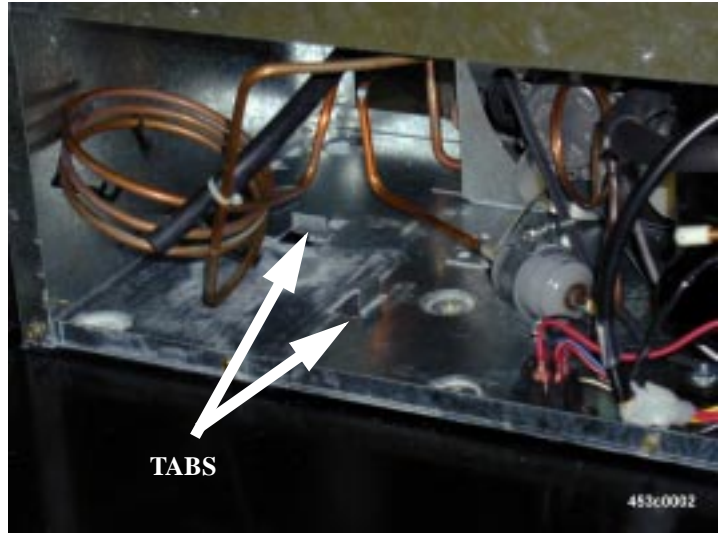

**Figure 2**
3. Remove the condensate pan brackets (4534063) holding the condensate pan and set aside (see figure 2).
8. Reinstall the condensate pan brackets that was removed in step 3 (see figure 2).